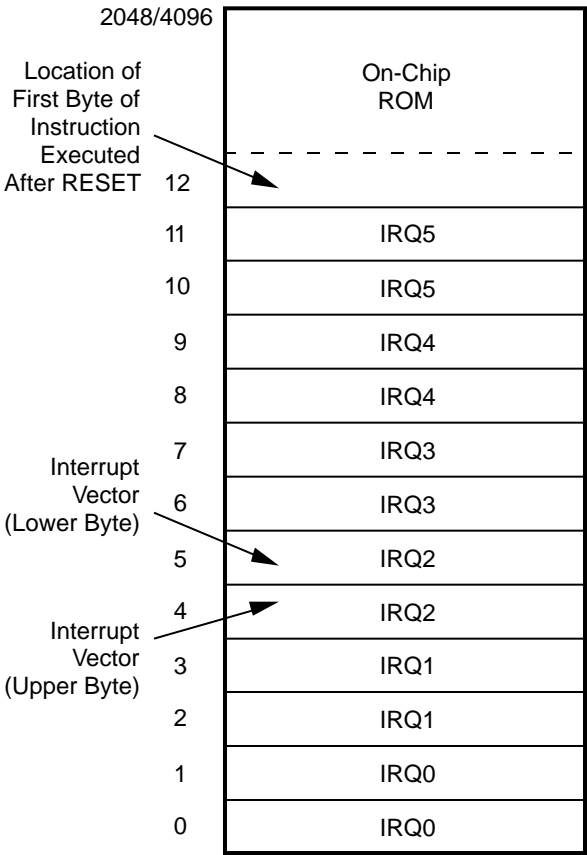

Figure 15. Program Memory Map
**Program Memory.** C83/C84/E83/E84 can address up to 4 KB of internal Program Memory (Figure 15). The first 12 bytes of program memory are reserved for the interrupt vectors. These locations contain six 16-bit vectors that correspond to the six available interrupts. Bytes 13 to 4095 consist of on-chip, mask-programmed ROM.